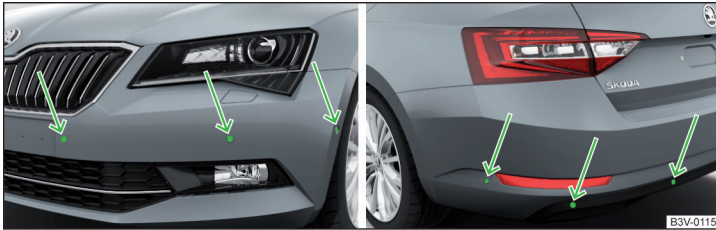

Fig. 165 Installation location of the sensors on the left side of the vehicle: front / rear
- Keep the system sensors » Fig. 165 on page 132 clean, snow-and ice-free and do not cover with any objects of any kind, otherwise the system functioning may be impaired.
The system uses ultrasound waves to calculate the distance between the bumper and an obstacle. The ultrasonic sensors are, depending on vehicle equipment, located in the back or in the front bumper » Fig. 165.